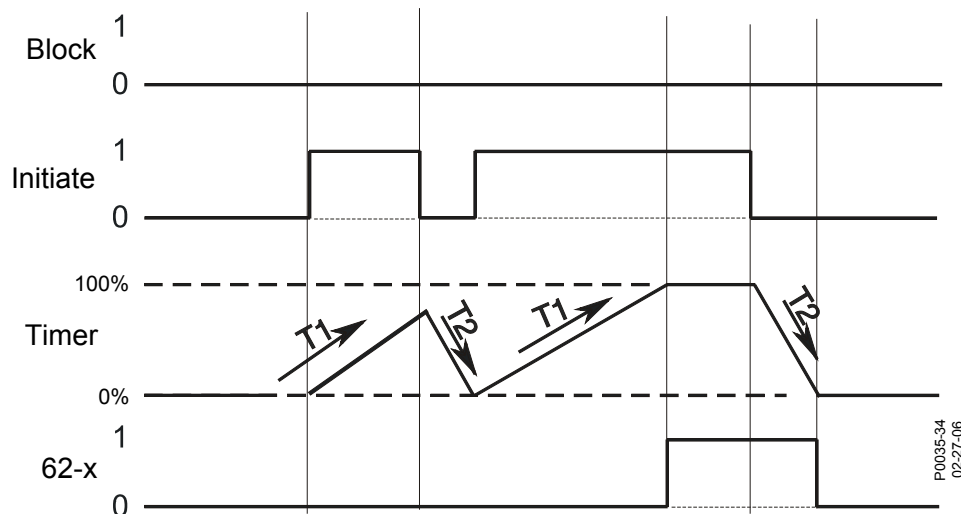

Figure 85-6. Integrating Timer Mode
- Step 10: Use the Metering Explorer in BESTCOMSP*lus* to open the Reports, Sequence of Events screen. Verify that the 62-1 timer output remained false between the first 43-1 switch action (ON) and the second 43-1 switch action (ON), the 62-1 timer output went true after the second 43-1 switch action (ON), and the 62-1 timer output returned to an OFF state.
- Figure 85-6 illustrates the timing relationship of the 43-1 switch and 62-1 timer.